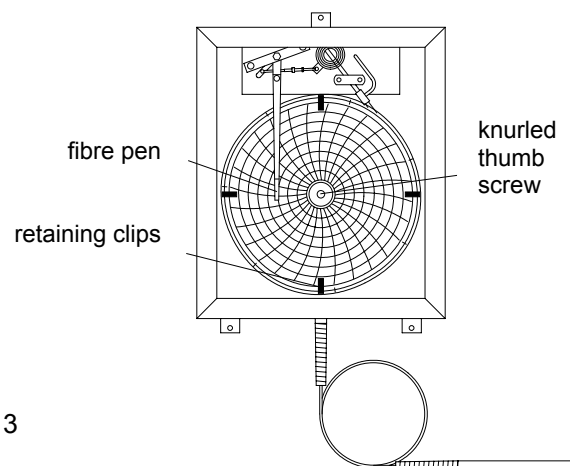

Figure 13
5.4 Paper drive mechanism for circular-chart recorders according to figure 13